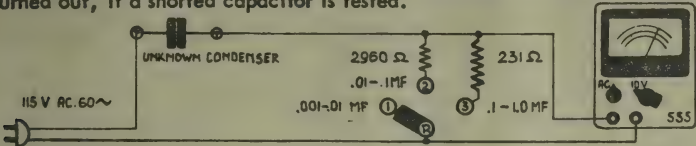

FIG. 2
By connecting the instrument as shown in Fig. 2, it is possible to make a comparative capacity test of paper capacitors. Refer to accompanying chart for the approximate readings that will be obtained when testing capacitors from .001mfd. to 1.0mfd. Do not use this setup to test electrolytic capacitors, because only d-c voltage may be applied to them. Use the 250V AC range at the beginning of the test. This will prevent the meter from being burned out, if a shorted capacitor is tested.
Fig. 2 is a schematic diagram of the internal connections for a-c voltage measurement. Note that the function switch, S2, is set at AC (2) when the instrument is to be used as an a-c voltmeter. Also, as in the d-c voltage circuit, S1-A and S1-C merely serve as closed connectors in every position, while S1-B introduces different resistances in series with the meter. External test connectors are made by inserting the tips of the test leads in pin jacks J3 (COMMON —) and J4 (+) on all voltage ranges except the 5000V range, when jacks J3 and J6 (A. C. 5000V) are used.
The output voltage measurement (see Fig. 2) description is essentially the same as that listed in the preceding AC section except that the condenser, C1, is used to block any DC component present.
The operation of the DB range, (see Fig. 2), is essentially the same as that described under Output Voltage Measurement. The meter is calibrated in DB across a 500 ohm impedance.